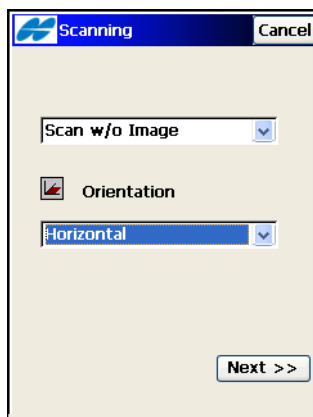

Figure 8-68. Select Orientation Type
1. Set the type of scan orientation and tap **Next** to select the scan area on the *Area* screen (Figure 8-68).